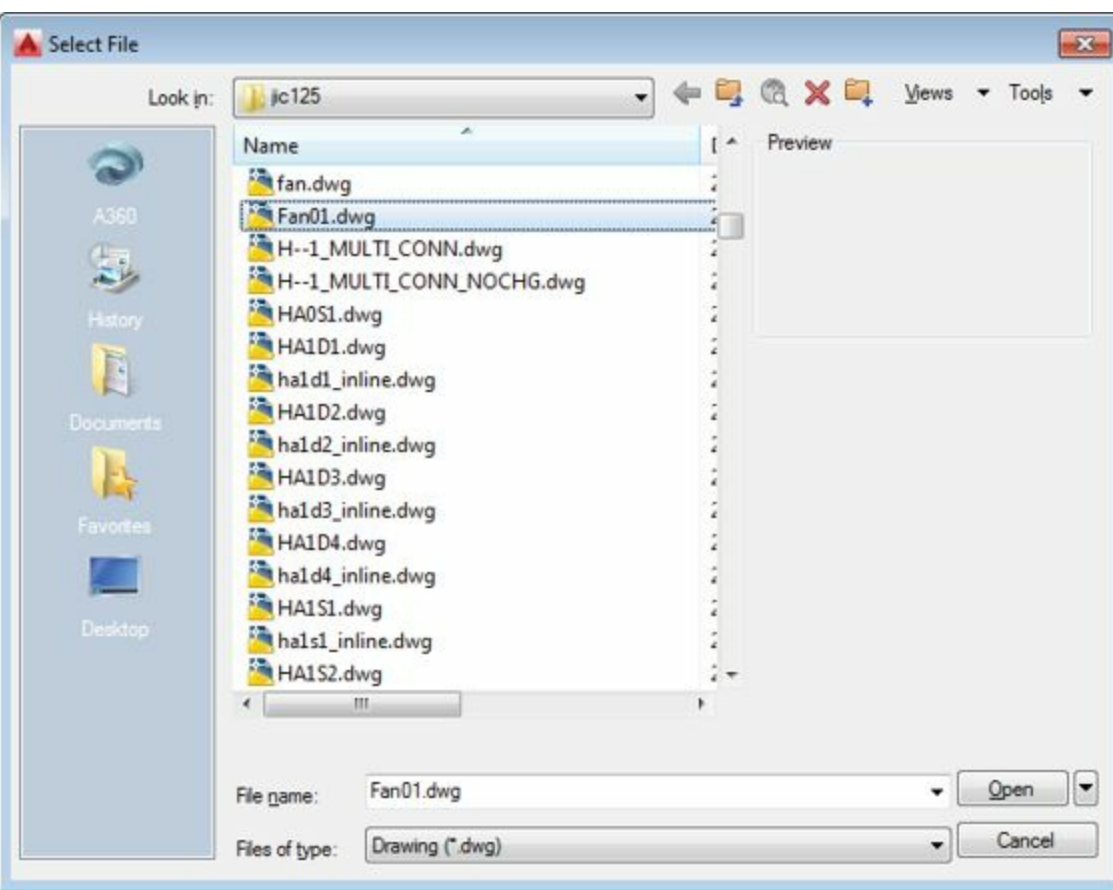

Figure-56. Select File dialog box
- Click on the **Browse** button next to **Block name** edit box in the **Block Name to Insert** area of the dialog box. The Select File dialog box will be displayed; refer to Figure-56.